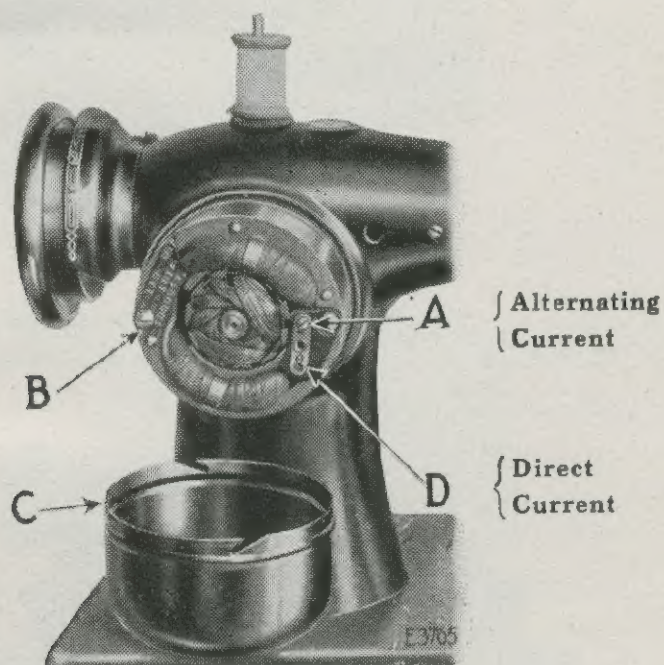

FIG. 6. ADJUSTMENT OF MOTOR
2. What is the voltage? This must not vary more than 10% from the voltage stamped on the name plate (B, Fig. 6, page 5) of the motor.
Remove the motor cover (C, Fig. 6) by turning it over toward the balance wheel, and the windings of the motor are exposed.
If the motor is to be operated on alternating current, the round head brass screw in the terminal plate should be inserted in the top hole marked "A" in Fig. 6, and firmly tightened.
If the motor is to be used on direct current, the round head brass screw should be inserted in the bottom hole marked "D" in Fig. 6, and firmly tightened.